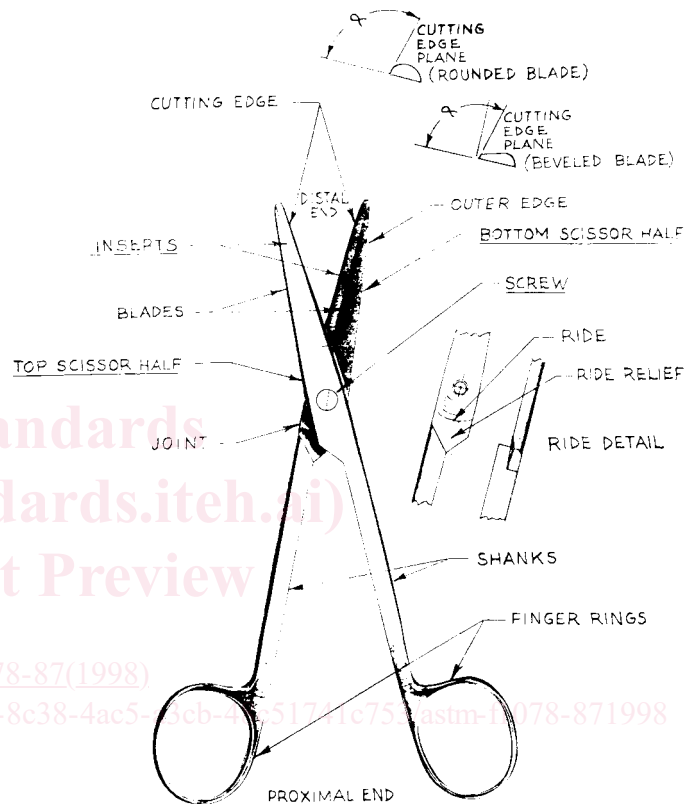

FIG. 1 Components of a Scissors (Inserted and Non-Inserted)
1.1 This terminology defines basic terms and considerations for the components of scissors with either inserted or non-inserted blades (see Fig. 1). Instruments in this terminology are limited to those fabricated having scissor blades made from stainless steel and used for surgical procedures.